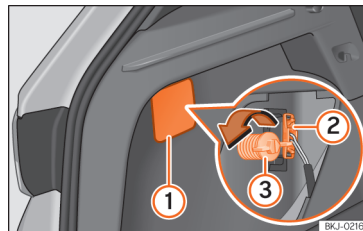
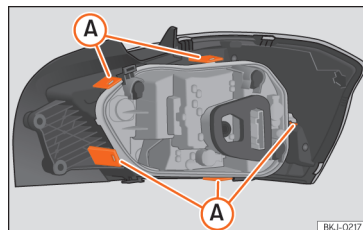

Fig. 58 Luggage compartment: access to the bolt securing the tail light unit.
Fig. 59 Retaining tabs on reverse side of tail light.
- Remove the lid, levering the flat side of a screwdriver into the recess »» Fig. 58 ①.
- Remove the bulb connector ②.
- Unscrew the light securing bolt ③ by hand or using a screwdriver.
- Remove the bulb holder unlocking the retaining tabs »» Fig. 59 A).